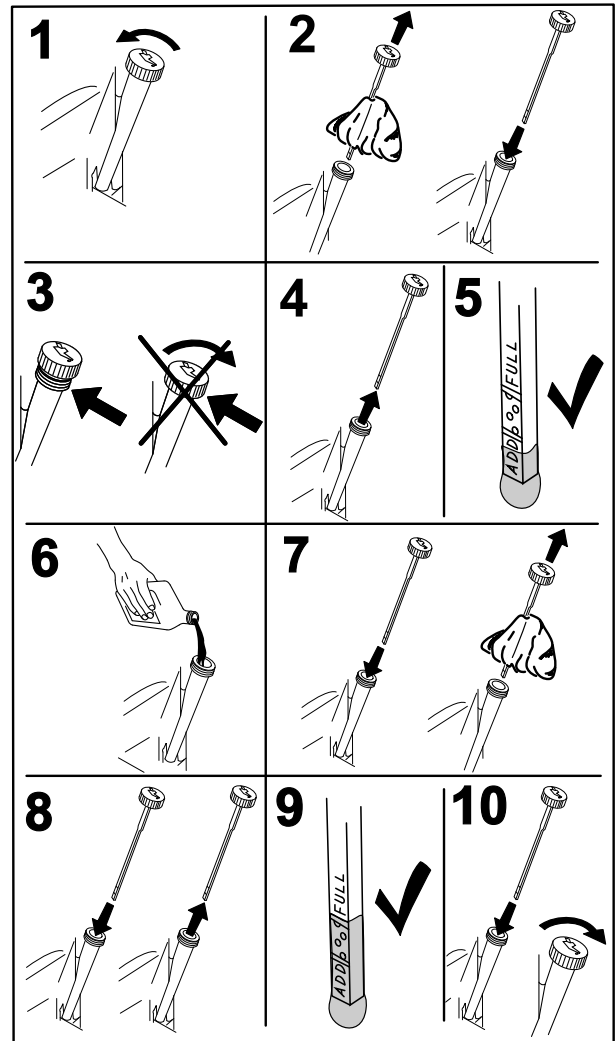

Figure 29
4. Stop the engine, remove the key, and wait for all moving parts to stop before leaving the operating position (Figure 29).